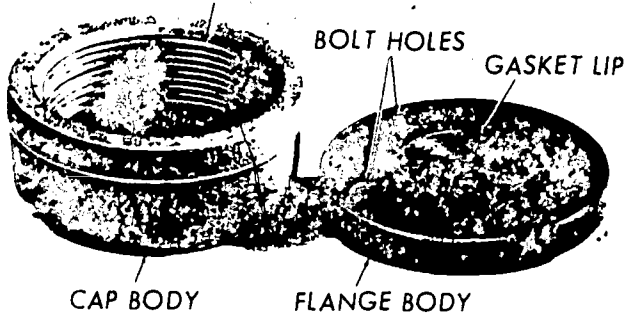

Figure 24. Typical four-hole flange and 3-inch pipe cap.
2. **Dry Boiler Method (Quicklime).** The dry method of boiler storing, sometimes called *lay up*, is normally used when it is necessary to store the boiler for long periods of time—usually over 30 days. If it becomes necessary for you to store a boiler by the dry method, you should first take the boiler out of service and then drain all loose rust, scale, and sludge that you can. You should do this with a stiff wire brush. All the internal surfaces of the boiler that you can reach should be cleaned. You should break the boiler feed-water and steam connections to keep out the moisture. Also, close off the end of the line with either a blank flange or a cap, depending upon the type of connection. Figure 24 shows a typical four-hole blank flange and a 3-inch pipe cap.